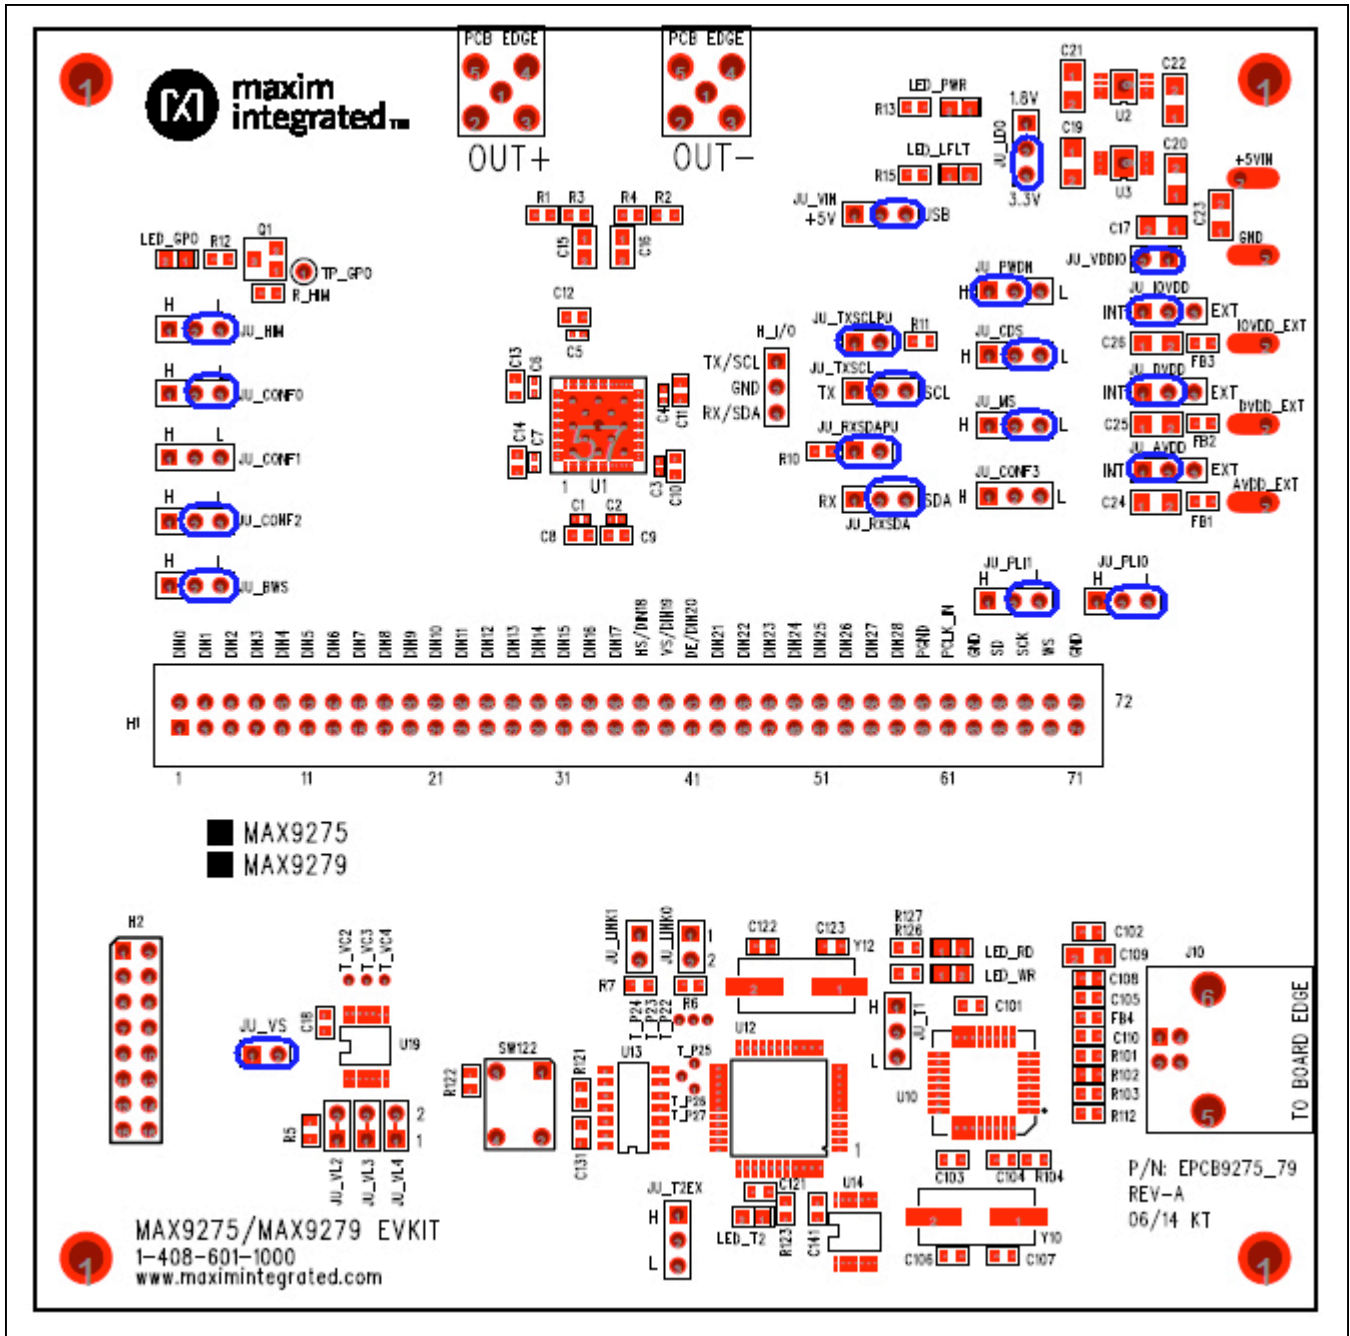
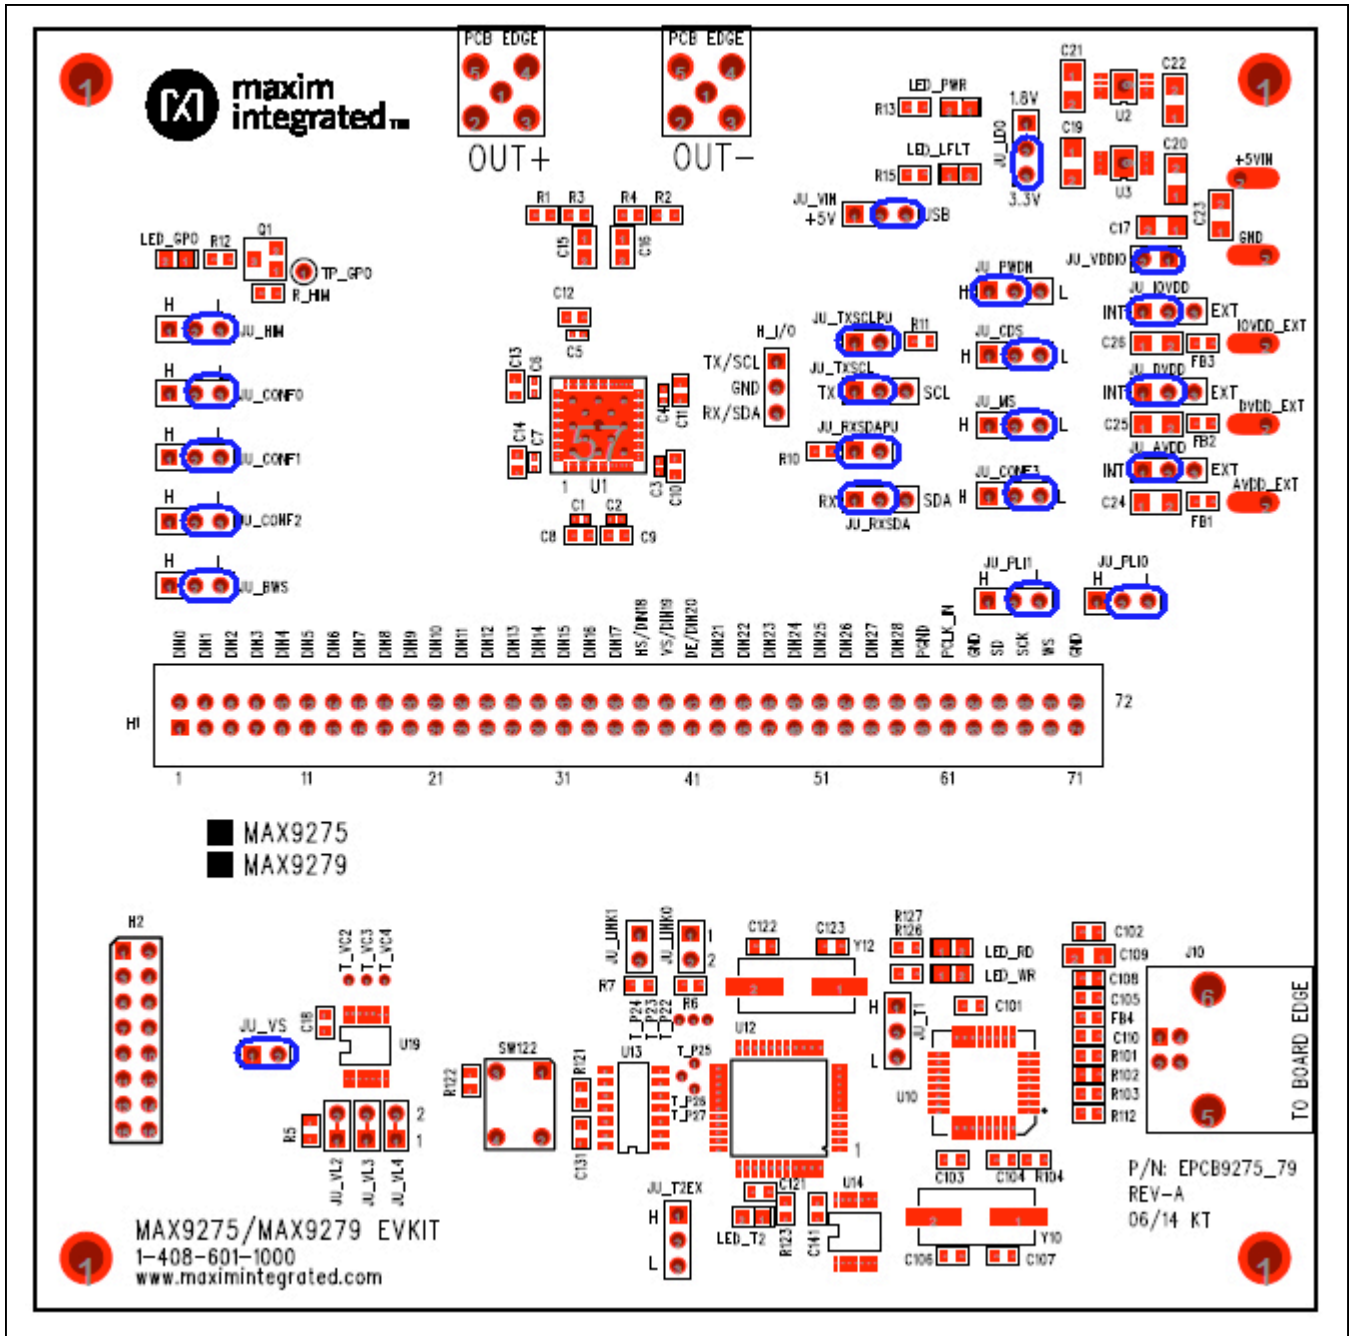
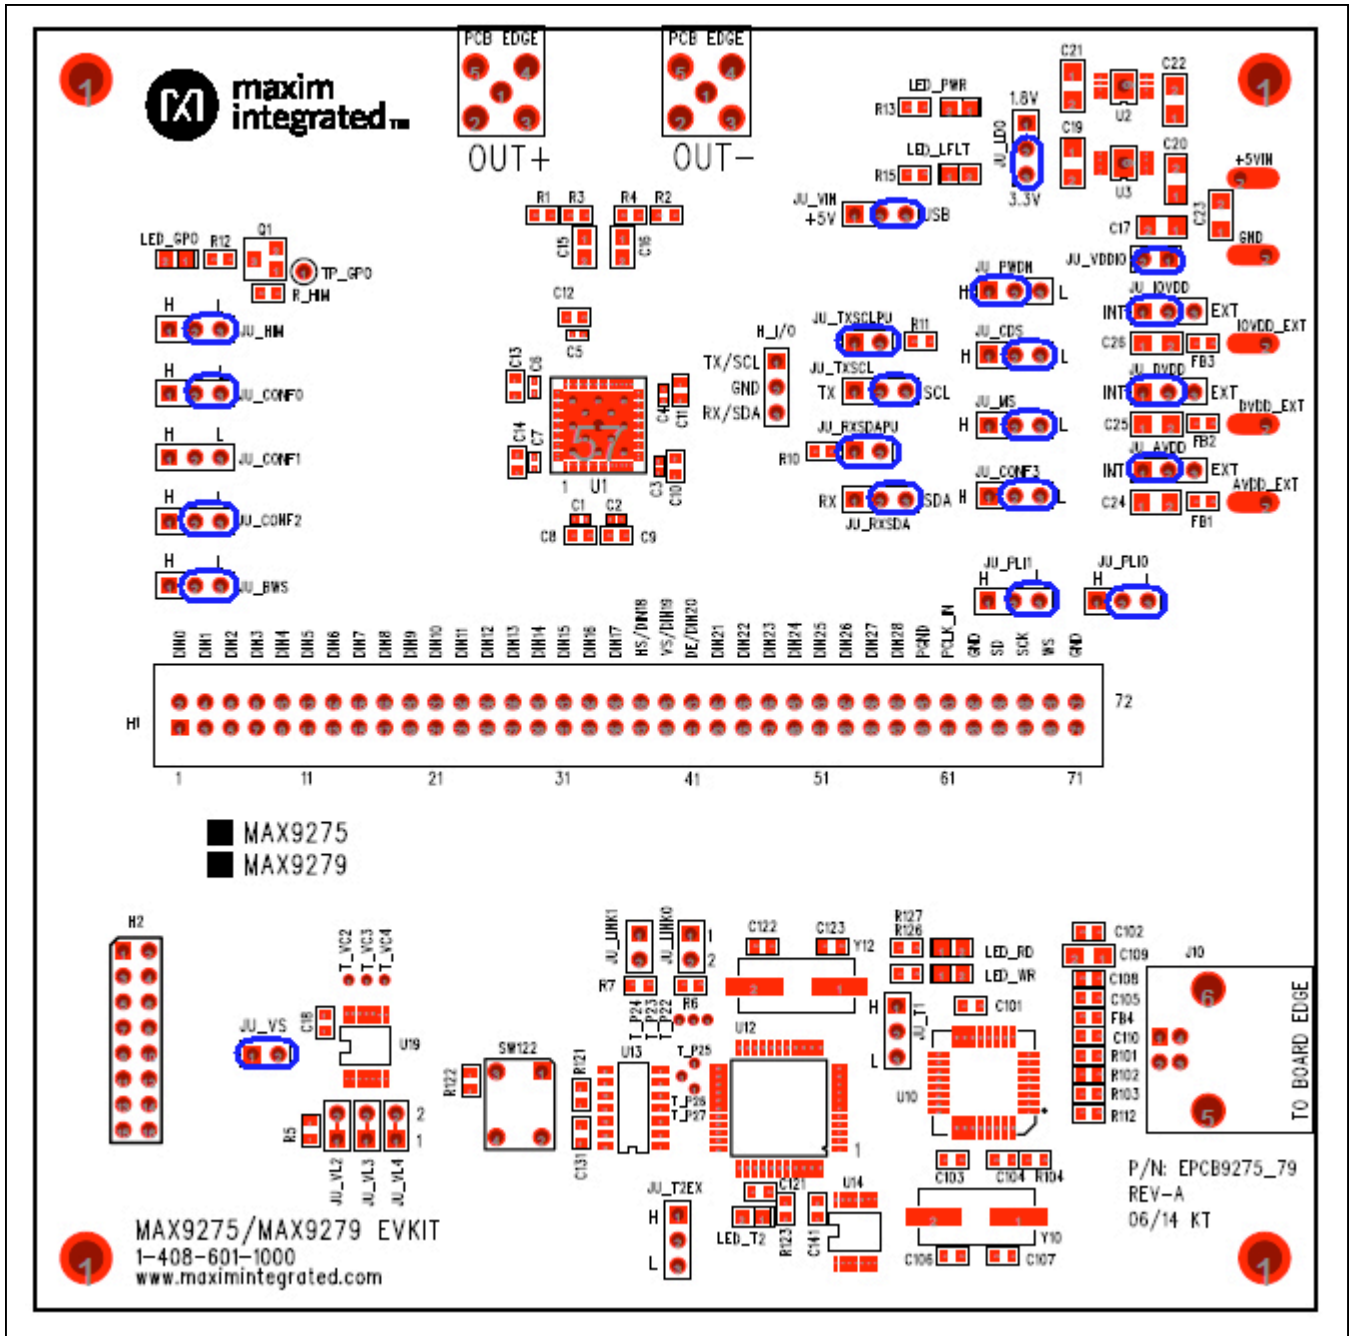

Figure 8. Initial Serializer Jumper Settings for Coax/I2C Mode
Figure 10. Serializer Jumper Settings for STP/UART Mode
Figure 11. Serializer Jumper Settings for STP/I2C Mode
- 2) Verify that all serializer jumpers are in their default positions, as shown in Table 1 and Figure 8, and deserializer jumpers are set, as shown in Figure 12.
The **Identify Devices** button causes the GUI to scan the system and search for slave addresses selectable by the SerDes input address pins. Upon successful communication, identified **Device ID** and corresponding jumper lists are displayed on the **MAX9279 Jumper Selection** and **MAX9280/80A Jumper Selection** group boxes. The user can also manually select a device from the **Device ID** drop-down list and enter a slave address in the **Device Address** edit box. It is good practice to utilize the **Identify Devices** function and verify communication with the DUTs before attempting to **Connect**. Figure 8, Figure 9, Figure 10, Figure 11, and Figure 12 show jumper settings on the MAX9275/MAX9279 PCB for coax or STP cable and UART or I2C communication with a USB controller connected to the serializer board. Refer to the MAX9275/MAX9279 IC data sheet for detailed configuration information. See Table 1 for jumper functions and settings.